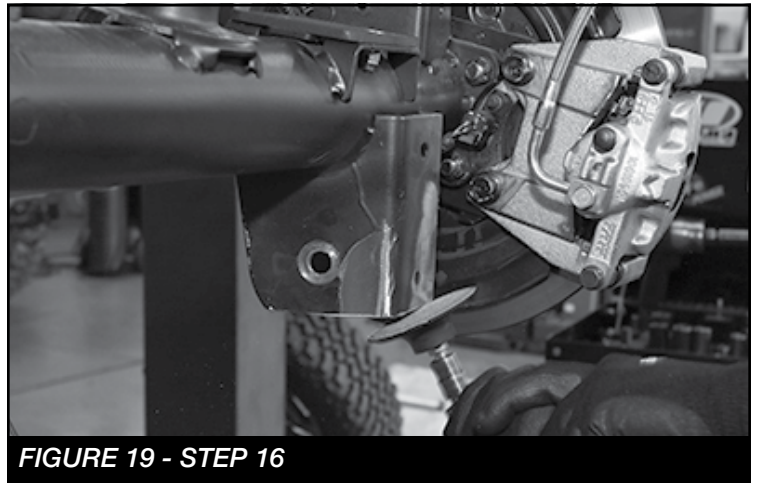

FIGURE 19 - STEP 16
- Test fit the Lower rear shock mount and make additional cuts if necessary. Sand and paint all bare metal areas. **SEE FIGURE 19**